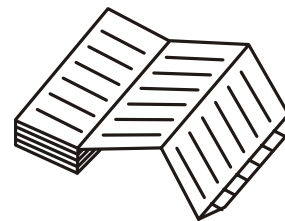

Fig. 3
3. As shown in Fig. 3, insert the recording chart with the "begin" tab placed in the cartridge. Check that the printed side is facing out.